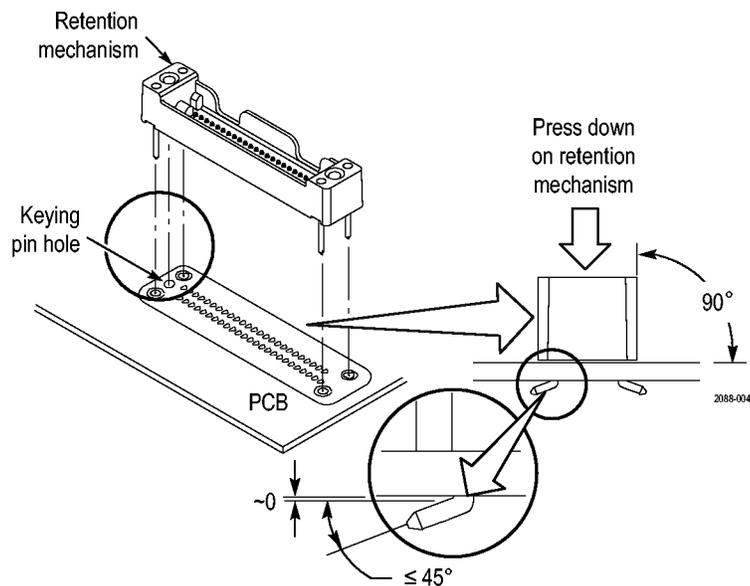

Figure 100: Installing the retention mechanism
2. Align the retention mechanism over the footprint so that the keying pin on the retention mechanism lines up with the keying pin hole on the footprint. (See Figure 100.)